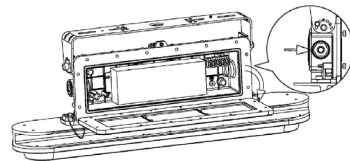

Fig. 2
4. Open the cover and let it hang on the retention cable (Fig. 2).
5. Unscrew the 3/4" NPT nut and install a suitable conduit to the conduit opening. Pull the wire through the conduit hole (Fig. 2), and connect it to the 5PIN terminal block. The wire connected to the terminal block should be aluminum or copper conductors. Connectors should be secured by Torque: 4.4 in-lbs. See the label at the terminal block for wiring.